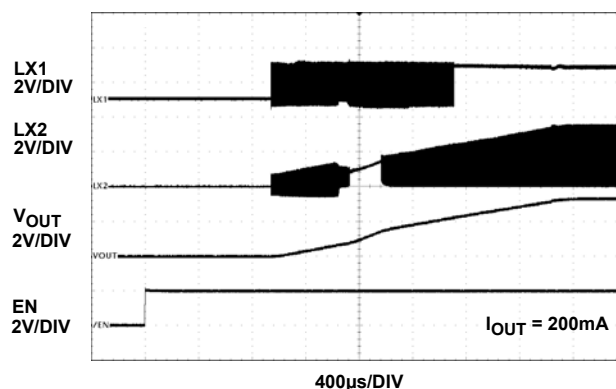

FIGURE 2. ISL91110 START-UP WITH $V_{IN} = 2\text{V}$ and $V_{OUT} = 3.3\text{V}$
Refer to the following Quick Setup Guide to configure and power-up the board for proper operation. During the power-on process, the expected waveforms are shown in Figures 2 and 3.
7. Monitor the output voltage start-up sequence on the scope. The waveforms will look similar to that shown in Figures 2 and 3.